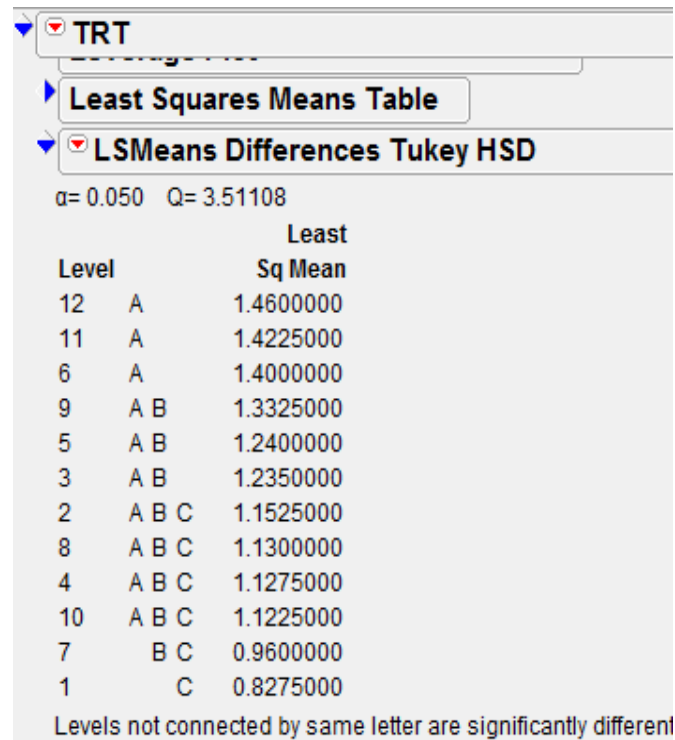

Figure 5.8.4 Tukey's Multiple Comparisons for all Treatments
7. One can perform Tukey's procedure on the treatment, click the red triangle besides the treatment factor and select **LSMeans Tukey HSD** (See Figure 5.8.4)